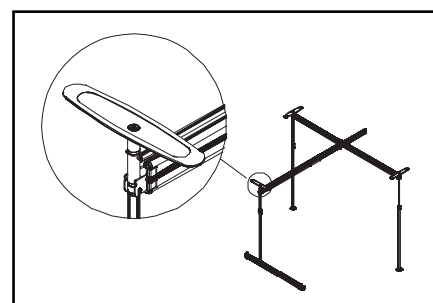

Figure 17
- b. For 3-post assembly with the bath bracket installed on pivoting rail, use the lower set of pins (Figure 17).